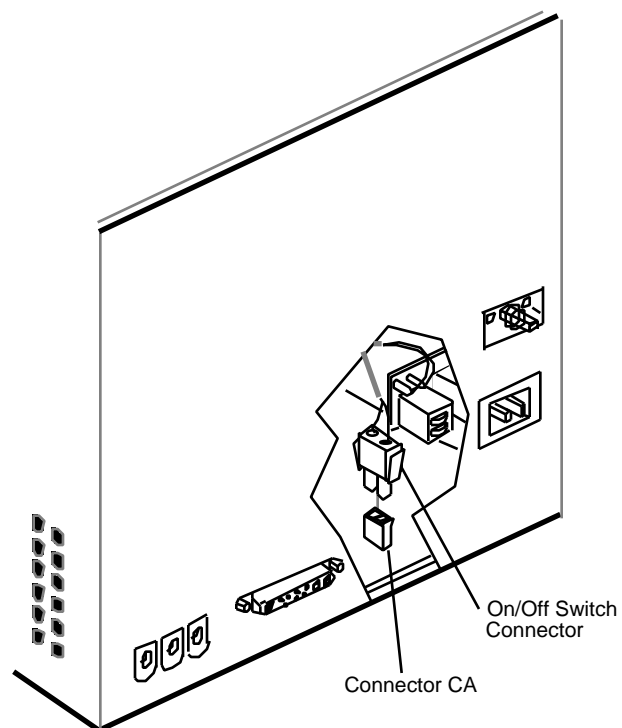

FIGURE 27
5. Disconnect the on/off switch connector from the connector labelled **CA** on the main deflection board (**Figure 27**).